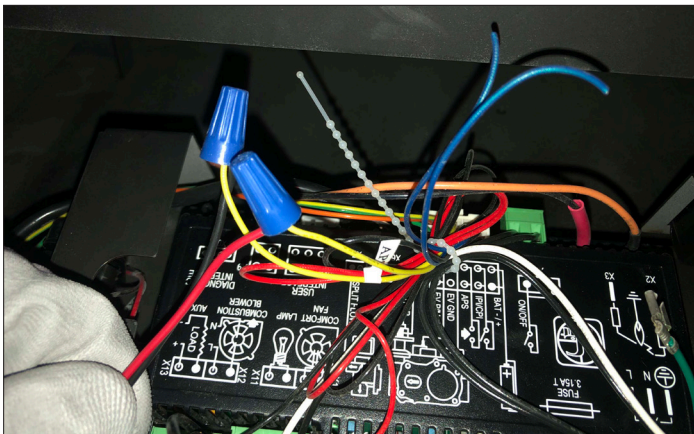

Figure 4.8, APS Wire Nuts
6. Locate the yellow looped "APS" wire on the control module wire harness. Cut this looped wire for two individual yellow wires. Strip back approximately 1/2" of the end of each wire. Using the (2) provided blue wire nuts, twist one of the yellow APS wires into the brown wire coming from the vacuum switch in the power vent assembly. Use the second blue wire nut to twist the second yellow APS wire to the red wire coming from the vacuum switch as shown in Figure 4.8.